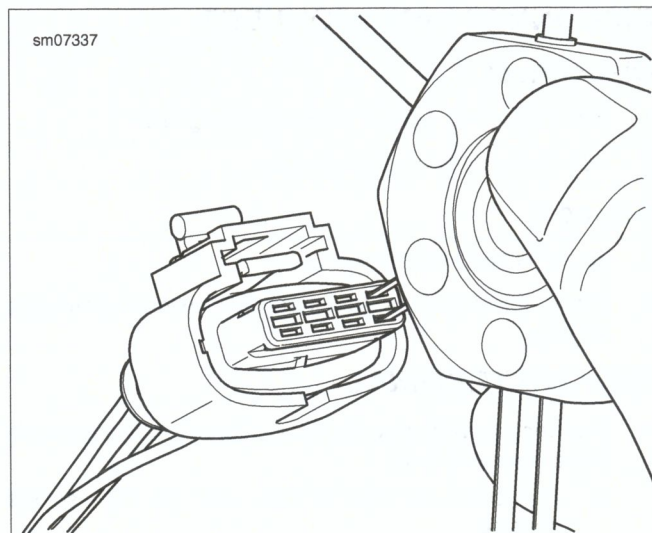

Figure A-1. Terminal Removal: Bosch Compact 1.1M Connector
1. See Figure A-1. Slide the locking bar off the terminal housing.